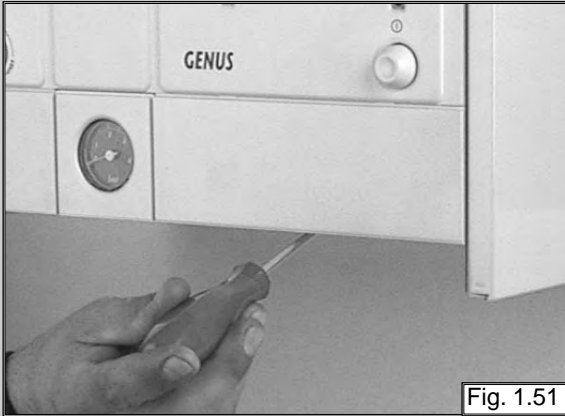

Fig. 1.51
1. Remove the right hand inspection cover (see fig. 1.51);